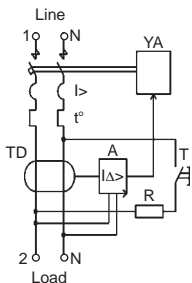

Figure 3. Electric schematic diagram of AD12.
3.4 Electric schematic diagrams of CB are shown in Figures 3 and 4.